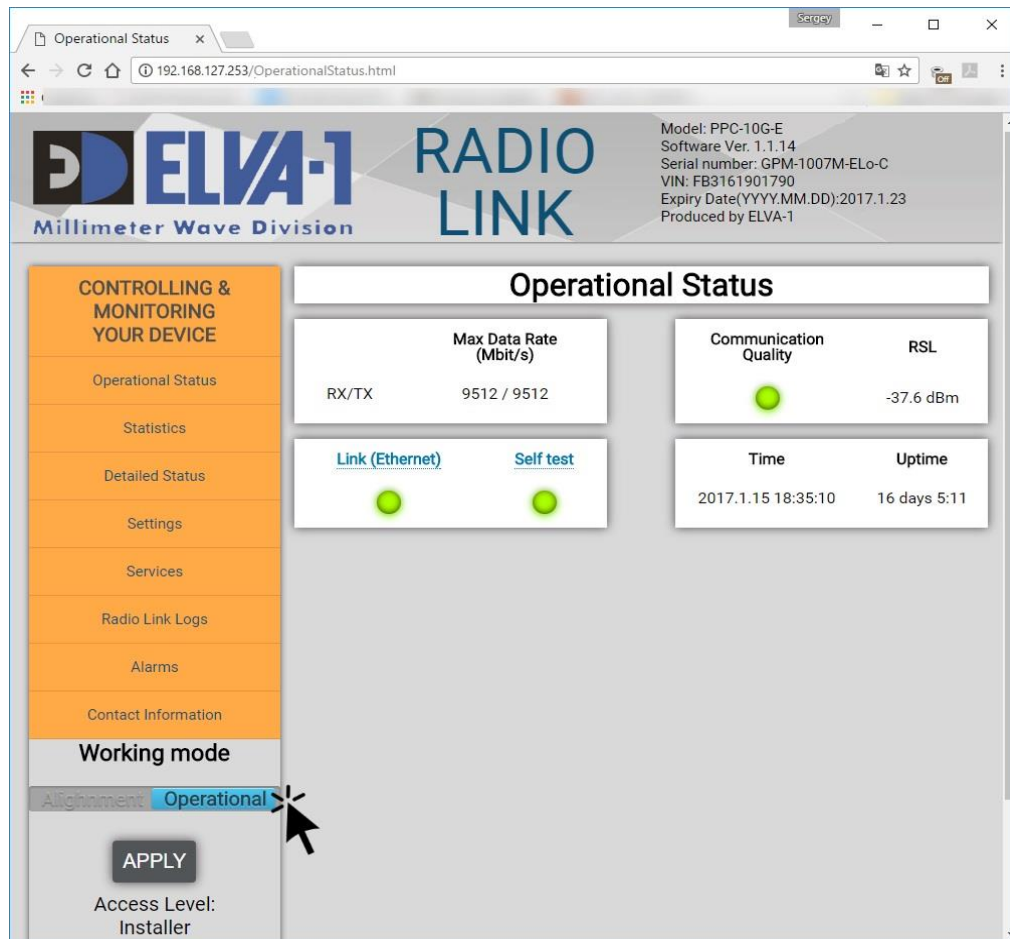

Figure 7: Click **Operational** button, then click **APPLY** button.
- When enter to the radio Web Interface page (Fig.7), press the **Operational** button in the bottom left of the window. Then press the **APPLY** button and wait until the transceiver restarts. **Operational** button become blue (ie, the normal wireless data transmission mode activated, but only for this radio – to fully activate main data channel, you need to repeat this procedure for another radio as well).